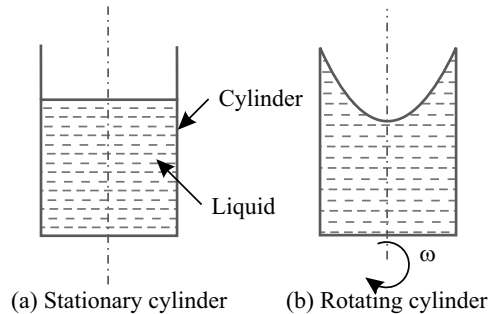

Fig. 6.64. Forced vortex flow.
3. Rotation of liquid in a vertical cylinder (Fig. 6.64).